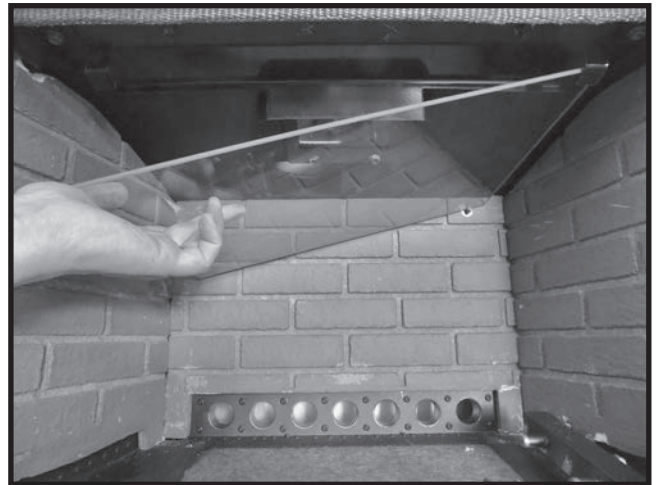

Figure 30: Inserting baffle into the upper corner.
1. With the door removed, place one end of the baffle over one of the two upper corners so that the baffle is resting on a rear peg and a front support (Figure 30).